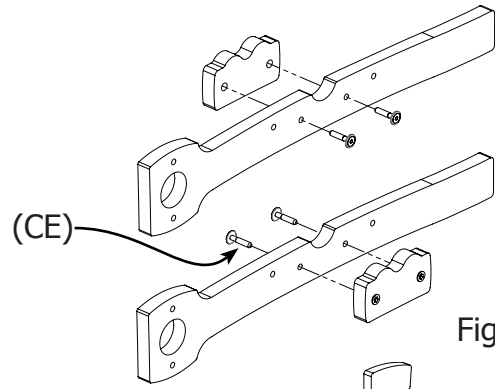

Fig. 7.2
**Step 7.2:** Attach a Bungee Rail Holder to each of the Bungee Arms using (CE) M6 x 30mm Connector Bolts.
**Note 7.2:** Make sure to have the threaded insert (in the rail holder) facing away from the Bungee Arm. Also, make left and right pairs of the Bungee Arms, as shown in Fig 7.2